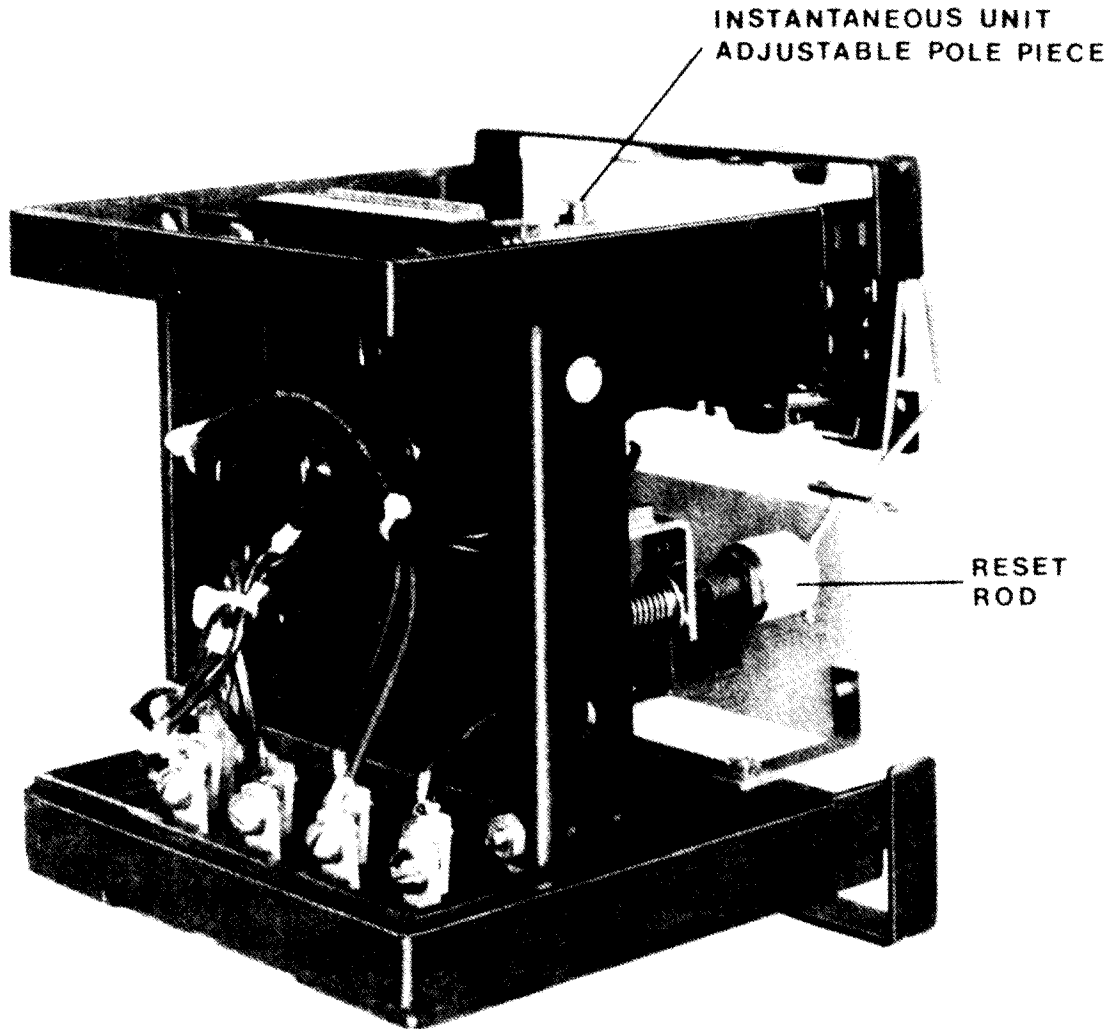

Figure 2 (8043503) TMC21B Relay, Rear View
2. Loosen the three mounting screws and remove the retaining plate (see Figure 2).